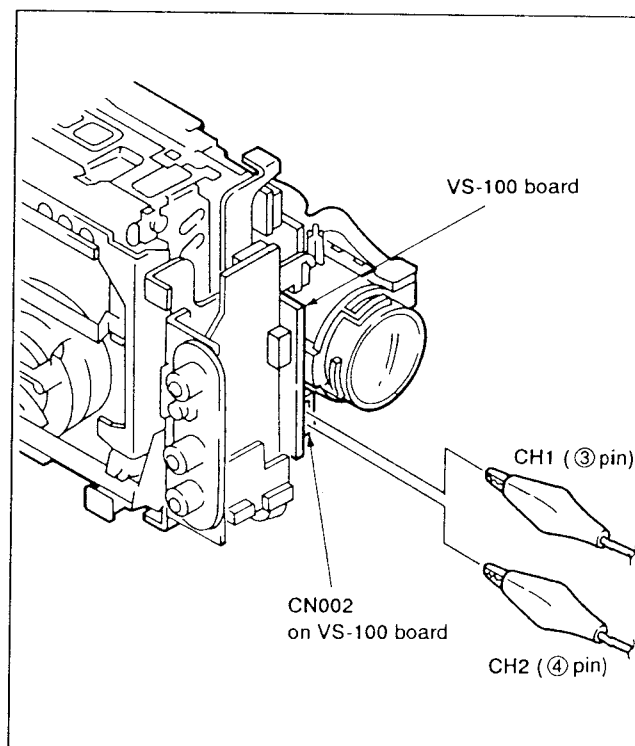

Fig.9-1.
- 4) Check that the RF waveform of the oscilloscope is flat at both inlet and outlet side. (Refer to Fig. 9-1 and 9-2)